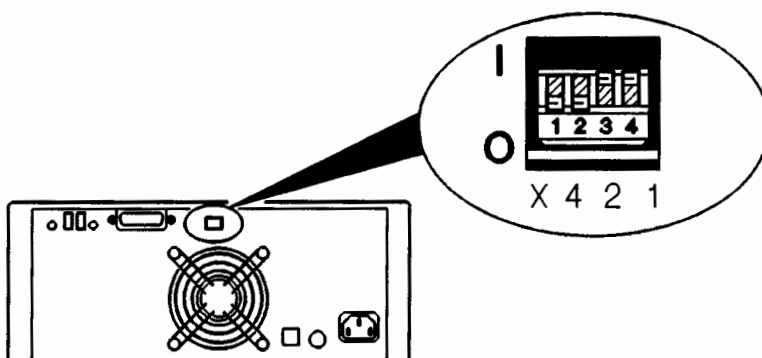

Figure 2-5. The Device Address Switches
- C. Using the tip of a ball-point pen, or similar object, alter the **Device Address Switches** (*fig. 2-5*) on the rear panel to match the pattern shown in figure 2-6 for the address you have chosen.